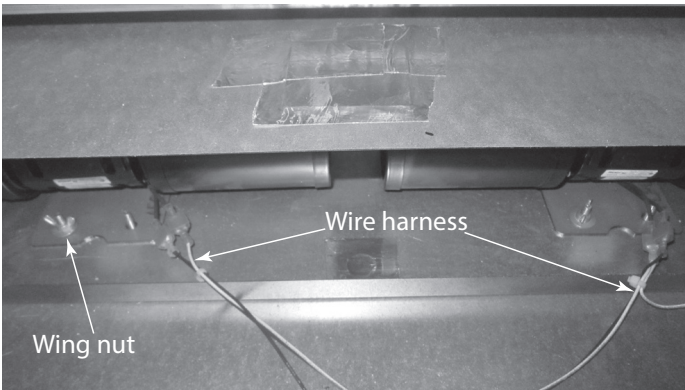

Figure 4.13 Unplug Wire Harness
4. Unplug the wire harness from the fans and remove the wing nut holding the fan in place. See Figure 4.13.